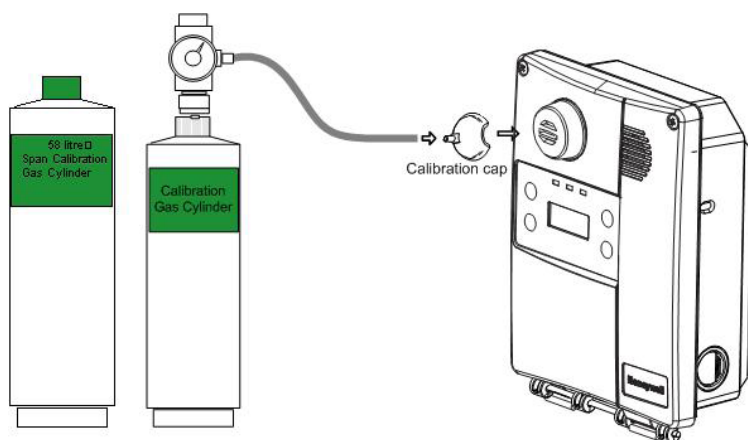

Figure 6. Calibration Setup
- Connect the tubing from the regulator to the sensor calibration cap See Figure 6. Calibration Setup.